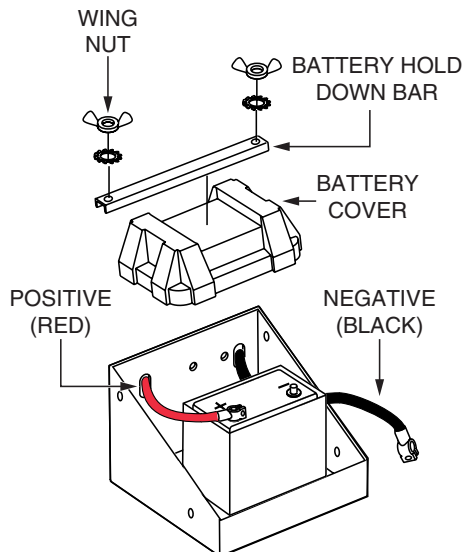

Figure 2. Battery Cover Removal and Cable Disconnection
1. Remove the two wing nuts (Figure 2) securing the battery hold down bar to the battery cover.
1. Disconnect the **BLACK** negative battery cable (Figure 2) from the battery post.